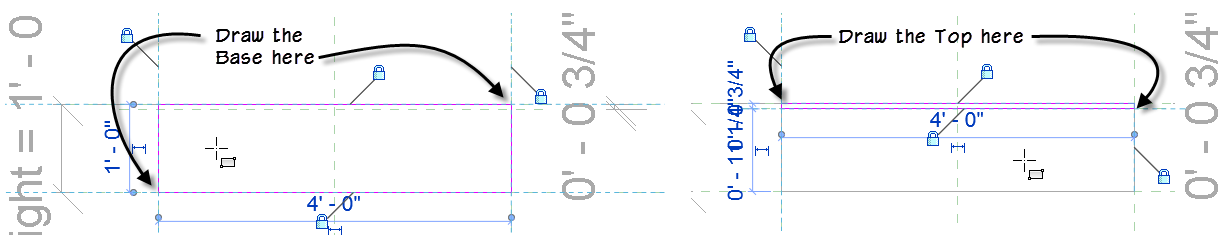

Figure 19
4. On the Draw panel, select the Rectangle shape and snap to the opposite corners of the rectangle defined by Ref. Level, Bottom, Left and Right Reference Planes. **Lock all sides** (see the left side of Figure 19).
6. Choose Rectangle again and create a thin rectangle between the Ref. Level, Left, Right and the new Reference Plane at $\frac{3}{4}$ ". **Lock all sides** (see the right side of Figure 19).